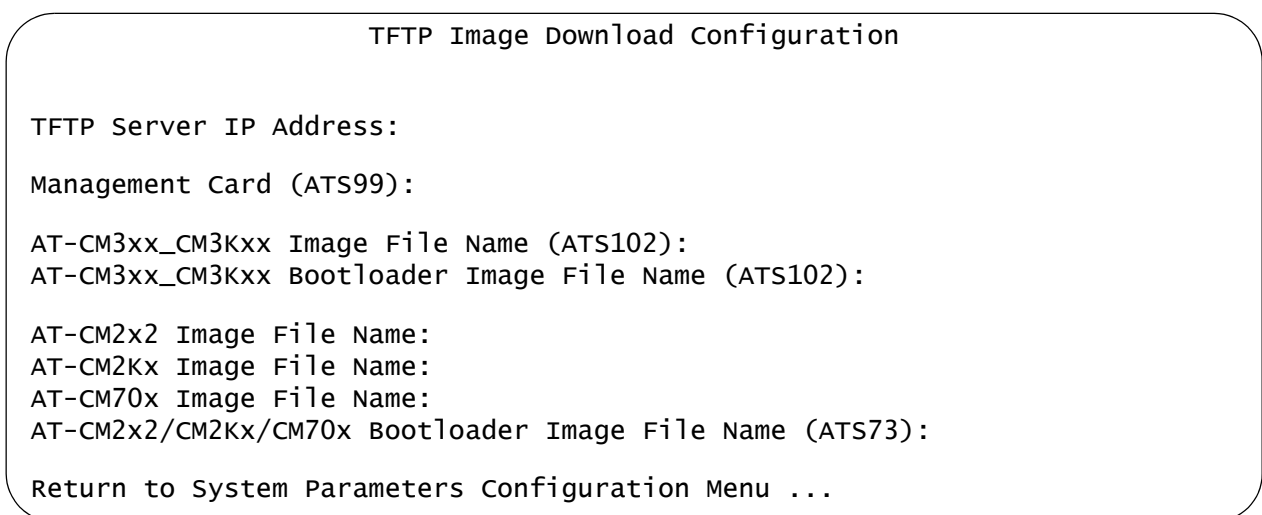

Figure 138. TFTP Image Download Configuration
4. From the System Parameters Configuration Menu, select **TFTP Image Download Configuration** to display the menu in Figure 138.